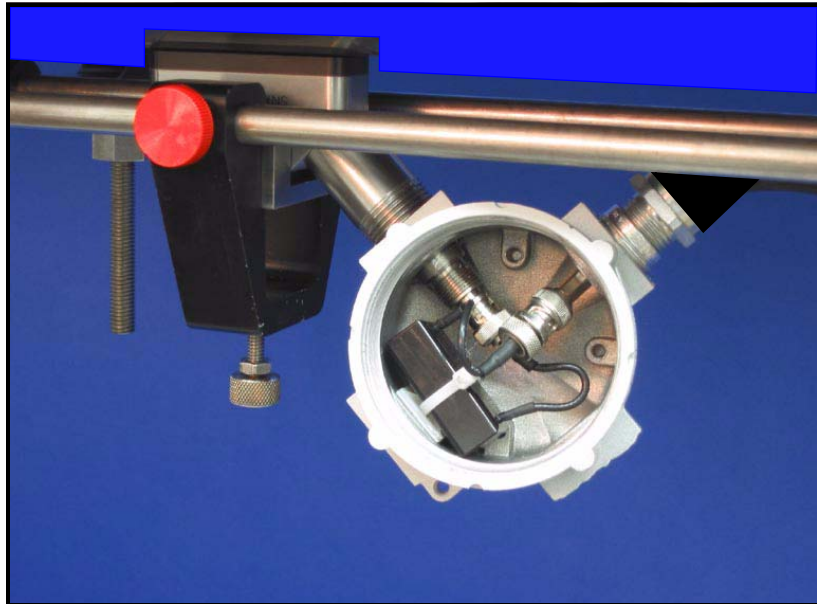

Figure 2-15: Receive Transducer with Preamplifier
2. Using a second pair of BNC to BNC coaxial cables, connect the preamplifiers (attached to the receiver transducers) to RX1 (Upstream Receiver) and RX2 (Downstream Receiver) in the electronics console (see Figure 2-15 and Figure 2-16 on page 2-28).